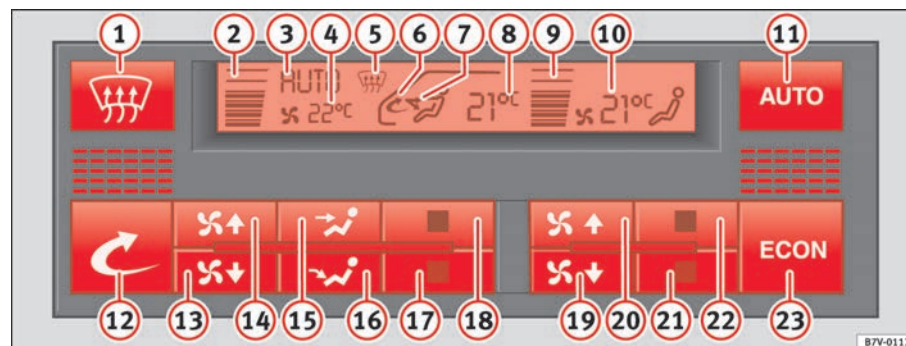

Fig. 119 Instrument panel: Climatronic controls
- Press one of the air distribution buttons ⇒ fig. 119 **15** or **16** several times, or one of the temperature buttons **17** or **18**. **AUTO**
- Press the button  page 155, fig. 119  12 to switch air recirculation mode on or off. This is ON if the symbol   6 is displayed on the screen.